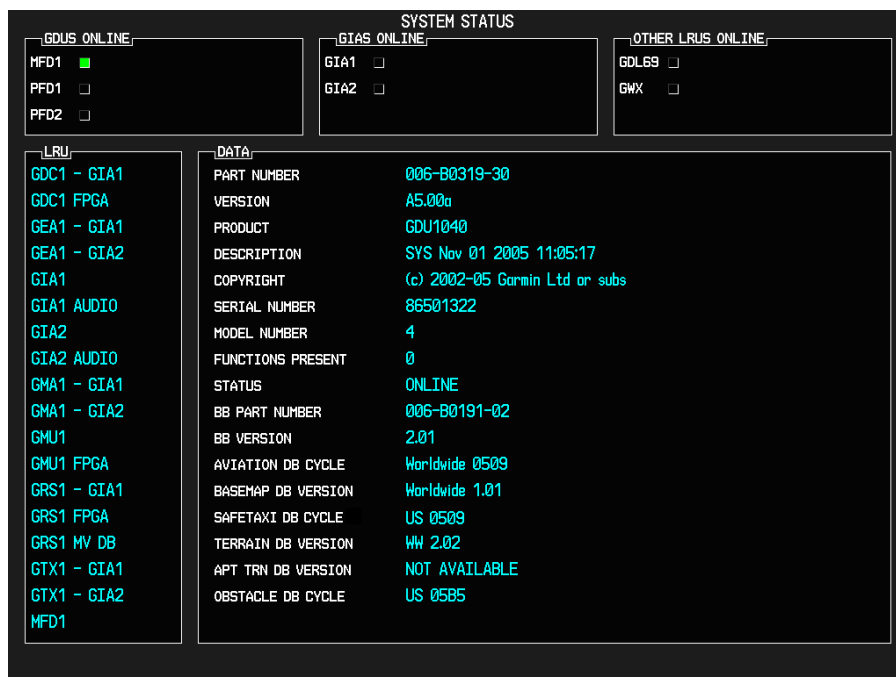

Figure 4-1. System Status Page (Configuration Mode)
2. Repeat step 1 for PFD 2 (if installed). The System Status Page (Figure 4-1) is displayed on the MFD and the PFD.